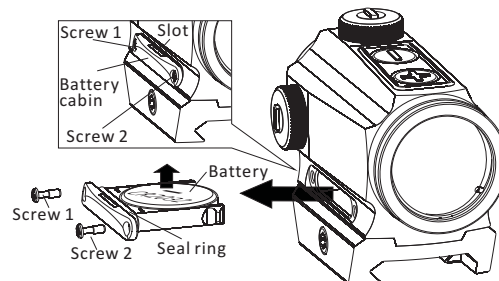

Fig 2-1
- 1) Removing the battery (Fig 2-1):